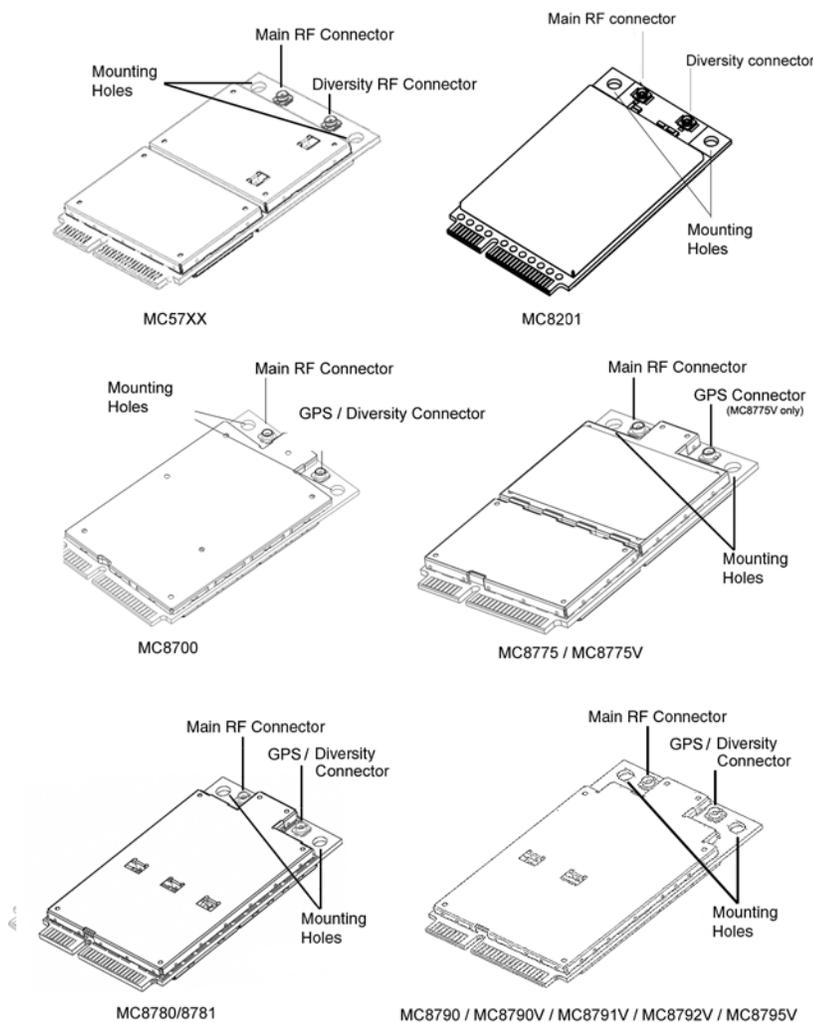

Figure 3-1: Antenna connection points and mounting holes
- Use a Hirose U.FL connector (model U.FL #CL331-0471-0-10) to attach an antenna to a connection point on the module, as shown in Figure 3-1 (main RF connector or diversity RF/GPS connector).
- Connect to system ground using the two mounting holes at the top of the module (shown in Figure 3-1 on page 39).